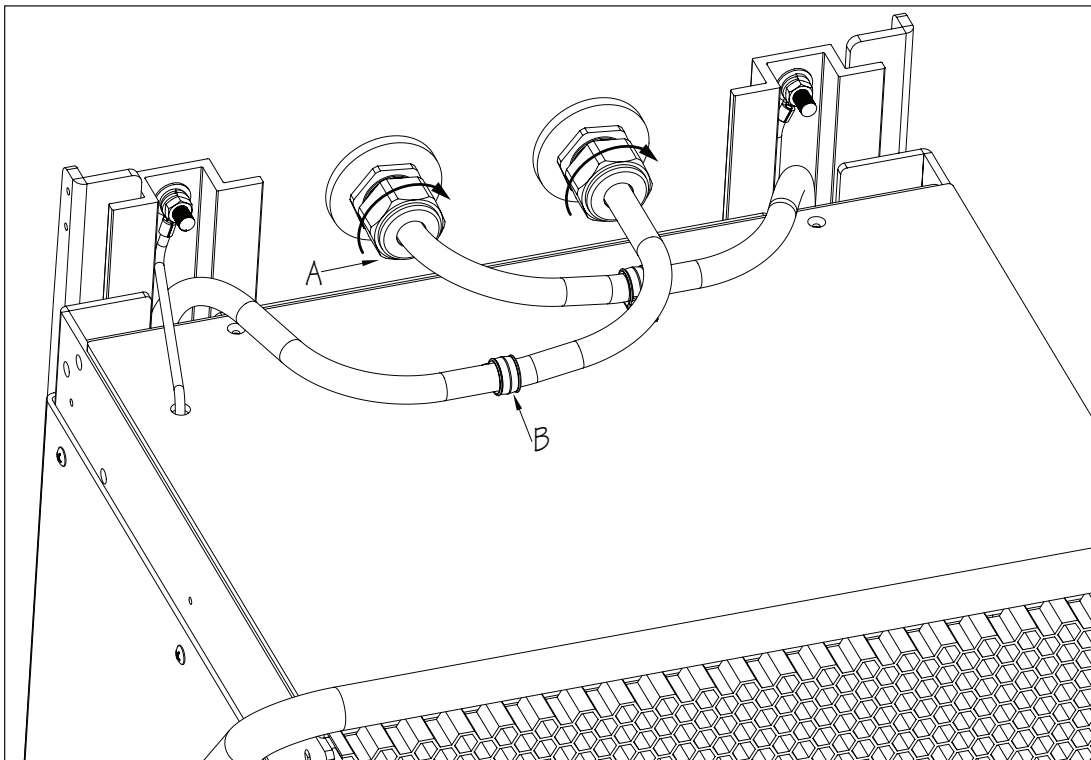

Fig. 11
4. Thread the Liquid Tight Fittings (A) into the Bushing Reducers and tighten the compression nuts. Secure Sub Hoses with hose clamps (B) (Fig. 11).